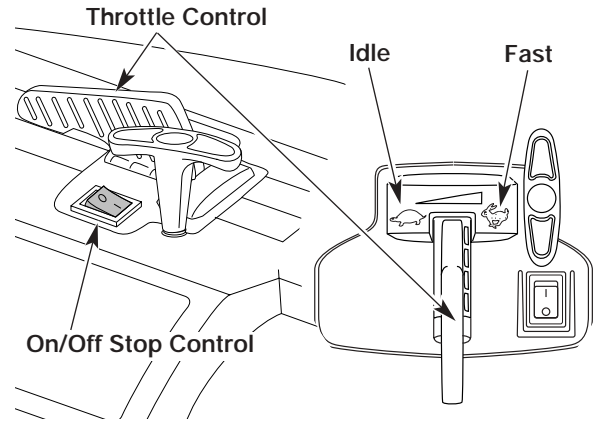
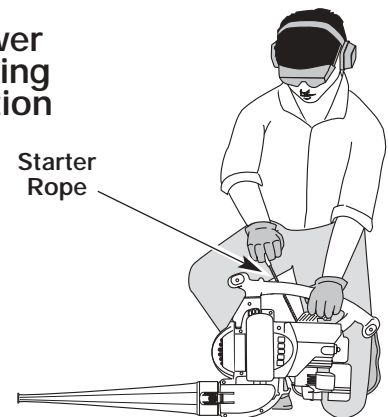
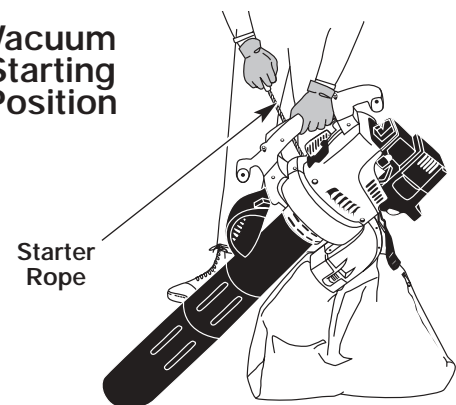

Fig. 10
Fig. 12
Fig. 13
WARNING: Avoid accidental starting. Make sure you are in the starting position when pulling the starter rope (Fig. 12 and 13). To avoid serious injury, the operator and unit must be in a stable position while starting. Do not set unit on any surface except a clean, hard area while starting. Debris such as gravel, sand, dust and grass could be picked up by the air intake and thrown out by the discharge opening. This could damage the unit, property, or cause serious injury to bystanders or the operator.
3. Place the unit in the starting position (Fig. 12 as a blower, Fig. 13 as a vacuum). *Move the throttle control to the **idle position** (🐢) (Fig. 10).* This is especially important during cold starting.